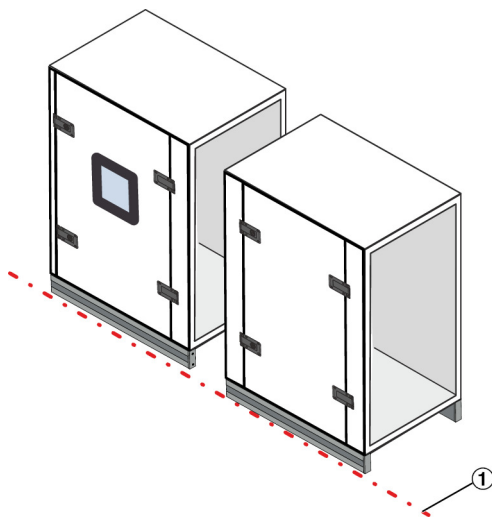

Fig. 13: Aligning AHU casing units
- 5. ▶ Align the AHU casing units so that they are flush with one another ( Fig. 13 /1).